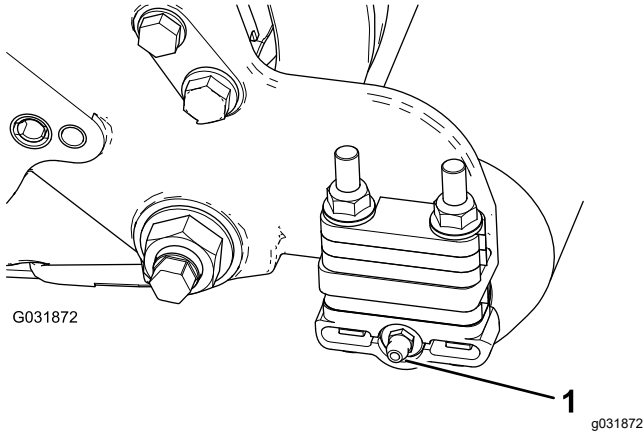

Figure 7
1. Remove the grease fitting for the roller from the side of the cutting unit that has the roller-brush housing (Figure 7).